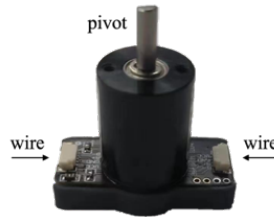

Fig. B-2. Angle encoders (voltage: 5V, resolution: 4096, baud rate: 115200) used in *AirExo*.
- Angle encoders.** *AirExo* has one angle encoder for each joint and gripper (Fig. B-2). See details at J01 in Tab. I. You can also choose your own encoder if needed. In that case, some minor adjustments may be required on certain 3D-printed parts of the joint to accommodate the size of the selected encoder.